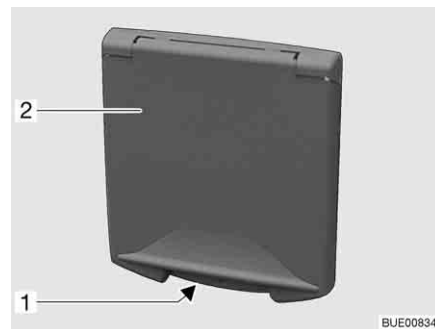

Fig. 34 Push-button lock service flap
- Insert the key into locking cylinder of the lockable push-button lock (Fig. 34,1) and turn a quarter turn. The push-button lock is unlatched.
- Insert the key into locking cylinder of the lockable push-button lock (Fig. 34,1) and turn a quarter turn. The push-button lock is locked.